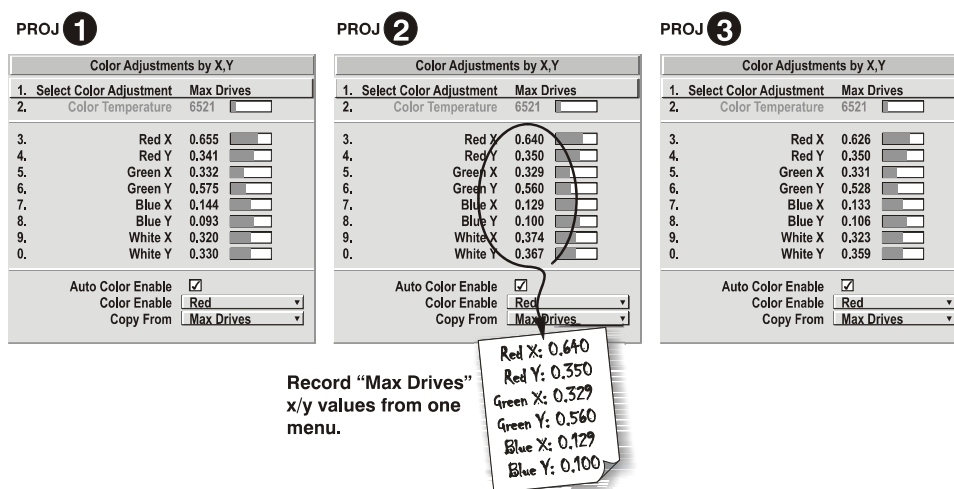

Figure 3.13. Jot Down a Set of “Max Drives” X/Y Values
4. Display the *Color Adjustments by X,Y* menus for all projectors. Each menu shows the x/y coordinates defining the “Max Drives” color gamut for this projector. Note the values shown in one (any) of the displays. See Figure 3.13. Or use the “Copy From” function to copy them into a “User” gamut in one projector.